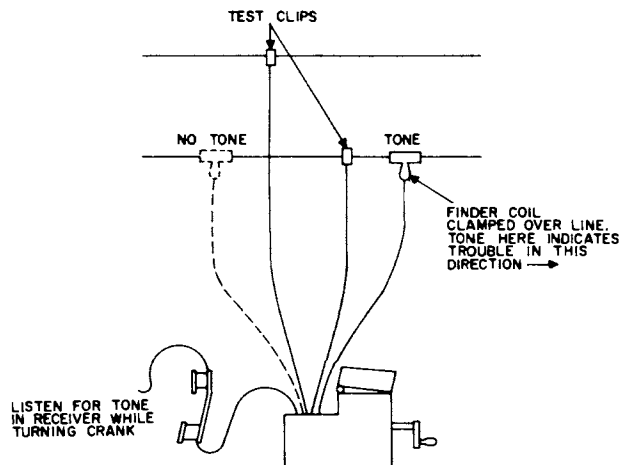

Figure 11. Connection for direction and estimate of distance.
- b. Attach test clips to the line wires, with the needle points piercing the insulation, as shown in figure 11. Distance between the clips is not critical, however, they should not touch each other.
- a. Place the finder coil over the wire and at least 6 inches away from the test clip toward the direction of the fault (figure 11).